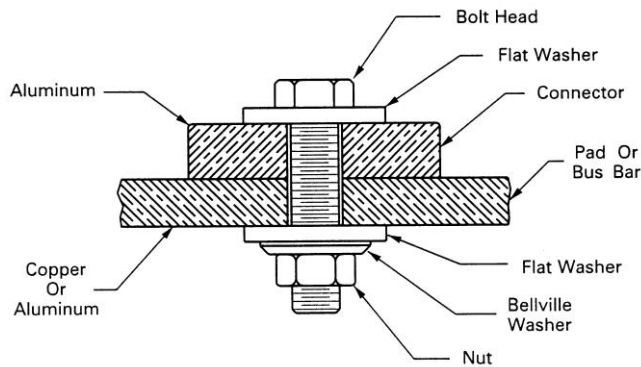

Figure 1
4. Clean pad on equipment with wire brush and apply connector compound (NG9D) on entire contact surface. Bolt surfaces together, using stainless steel bolts (B8B15 thru B8C30), nuts (B8C40) flat washers (B8W3) and Belleville washers (B8W10). See Figure 1 below.